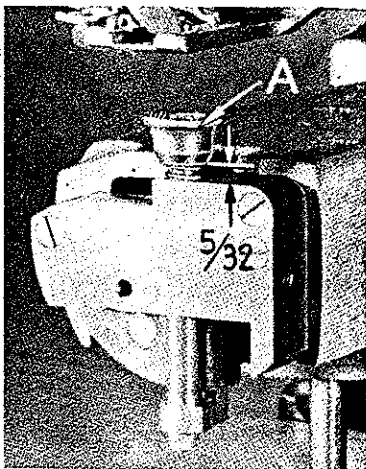
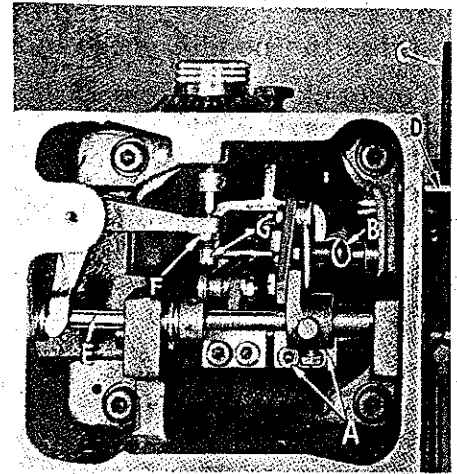
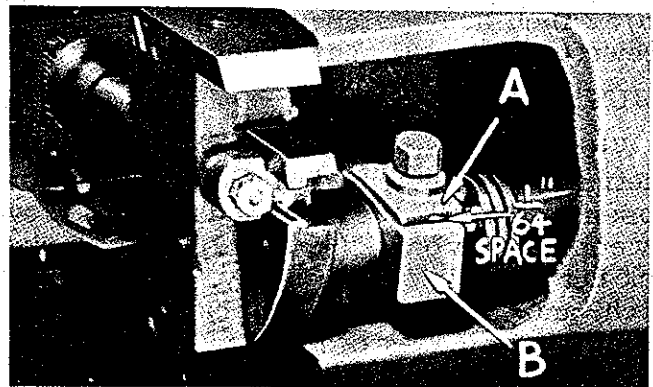
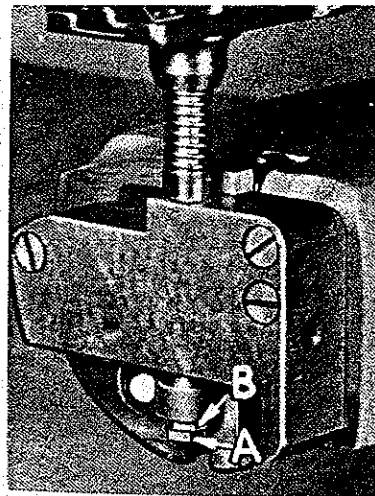

Fig. 9
Fig. 8
Fig. 10
Fig. 11
Tip machine on its side and loosen clamp screws (A, Fig. 8). Disengage spring (B) from crank roll. Depress lever (C) until it rests against its stop pin (D). Turn plunger shaft (E) clockwise until bottom of work clamp (A, Fig. 9) is  $5/32$  inch above plunger bearing block. Tighten clamp screws (A, Fig. 8) and re-engage spring (B).
With machine in stop position, tilt machine on side, pull penetration dial out, and turn clockwise as far as it will go. Loosen locknut (F, Fig. 8), and adjust screw (G) until space between plunger block (A, Fig. 10) and crank (B) is  $1/64$  inch. Lock nut (F, Fig. 8) securely. Tip machine back, engage clutch, and turn pulley in operating direction until point of looper is over center of needle. Loosen locknut (A, Fig. 11) and adjust plunger up or down by means of nut (B) until point of looper just contacts needle. Lock nut (A) securely.